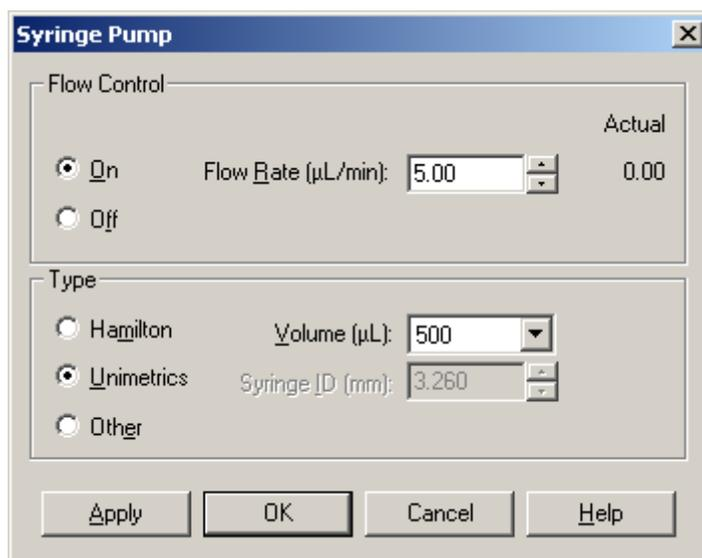

Figure 21. Syringe Pump dialog box
1. Click the **Syringe Pump** button to display the Syringe Pump dialog box. See Figure 21.